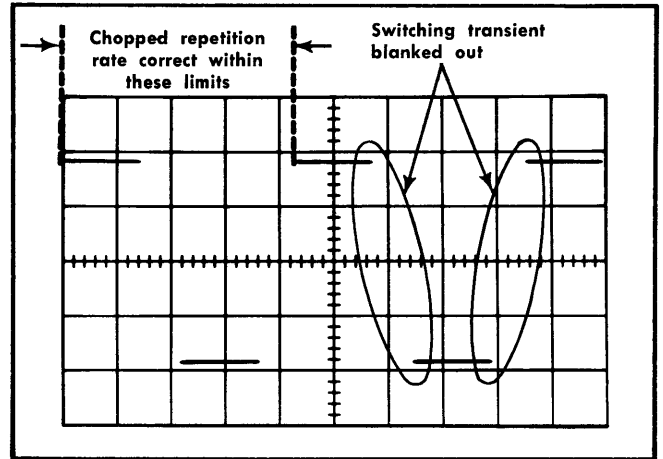

Fig. 5-44. Typical CRT display when checking chopped repetition rate and blanking.
- CHECK—Each cycle for duration of 3.4 to 5 divisions (500 kilohertz, $\pm 20\%$; see Fig. 5-44).
- CHECK—CRT display for complete blanking of switching transients between chopped segments (see Fig. 5-44).